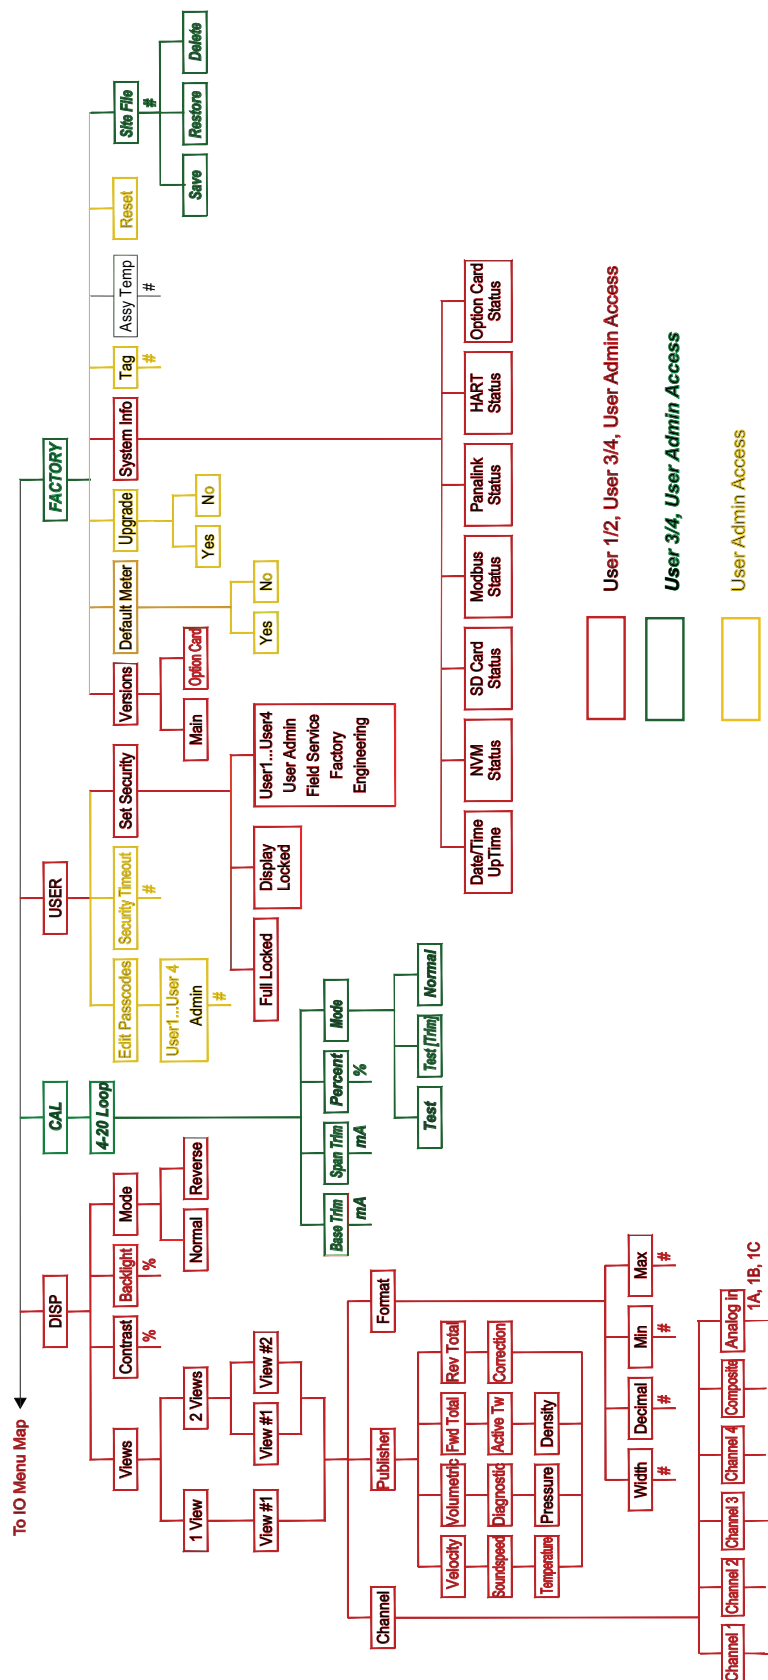

Figure 71: DISP, CAL, USER, and FACTORY menu map
- Figure 71, "DISP, CAL, USER, and FACTORY Menu Map," on page 97